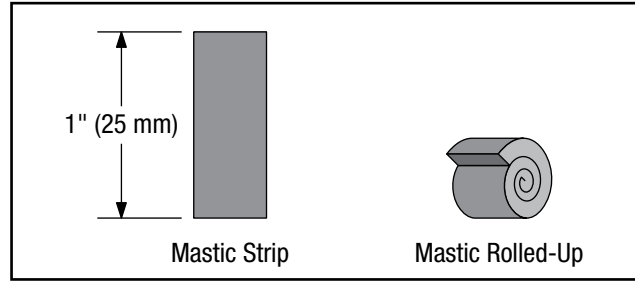
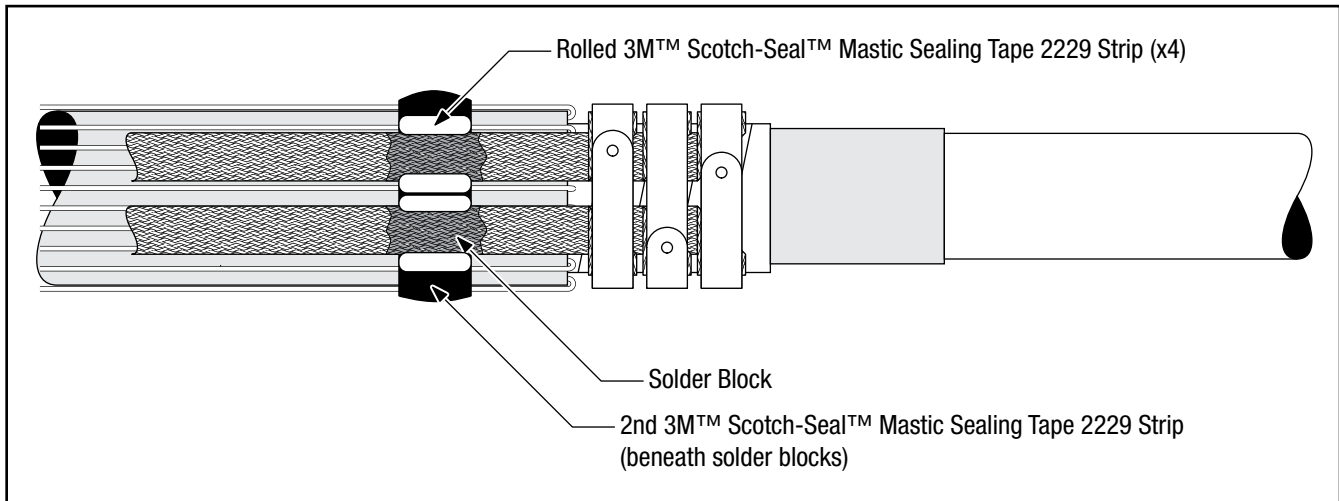

Figure 16
Figure 17
- 4.5 Cut four 1" (25 mm) lengths of 1" (25 mm) wide 3M™ Scotch-Seal™ Mastic Sealing Tape 2229. Remove the release liner and roll each mastic strip into a small roll. (*Figure 16*) Press the mastic rolls into place on either side of the ground braid solder blocks. (*Figure 17*)